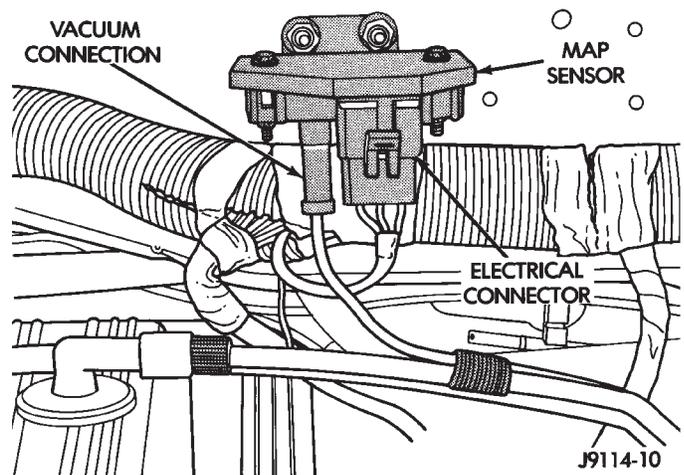

Fig. 23 MAP Sensor—Typical
The MAP sensor is located on the dash panel near the rear of the engine cylinder head (valve) cover (Fig. 23).
- (1) Disconnect the MAP sensor electrical connector (Fig. 23).
- (2) Disconnect the MAP sensor vacuum supply hose (Fig. 23).
- (3) Remove the MAP sensor mounting nuts and remove MAP sensor.